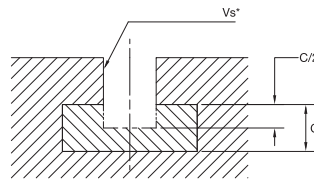

Fig. 2
- If chattering is a concern, adopt the Figure 2 solution.
- Fewer problems with chip evacuation and reduced cutting forces enable deeper vertical slots as shown in Figures 2 and 3.